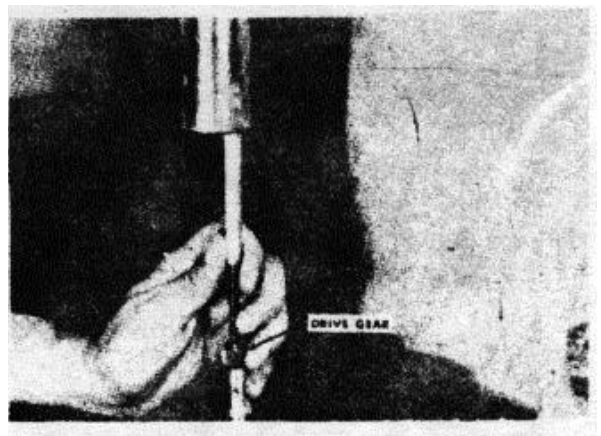

Figure 4-24. Removing drive gear and bushing
2. Press the tachometer drive shaft from the drive gear and bushing. Fig. 4-24.